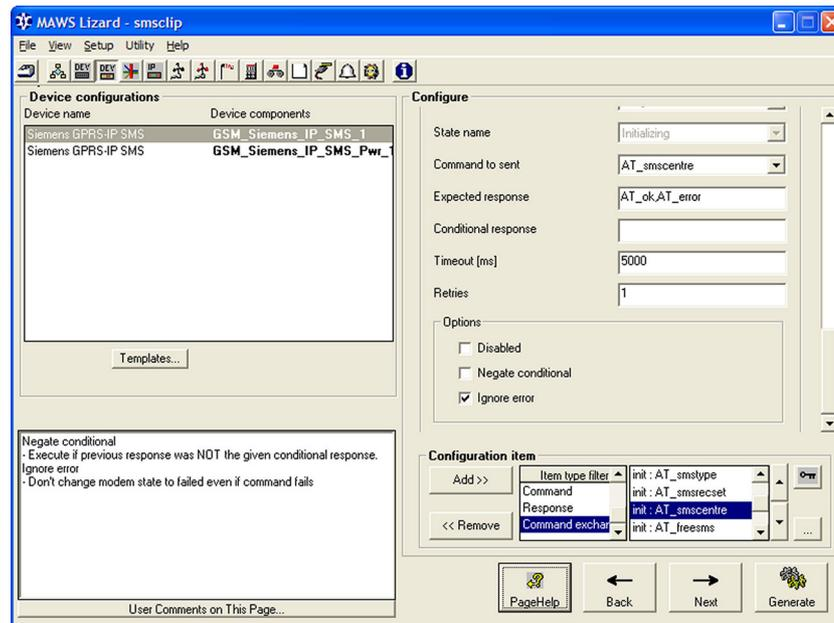

Figure 134 Modem Command Exchange Enabled
Modem command exchange option **Disabled** is selected by default for command exchange `AT_smscentre`. See Figure 134 on page 286 below.
1. In Lizard, open the **Device configurations** view for telemetry devices and select the modem to configure; see Figure 134 on page 286.